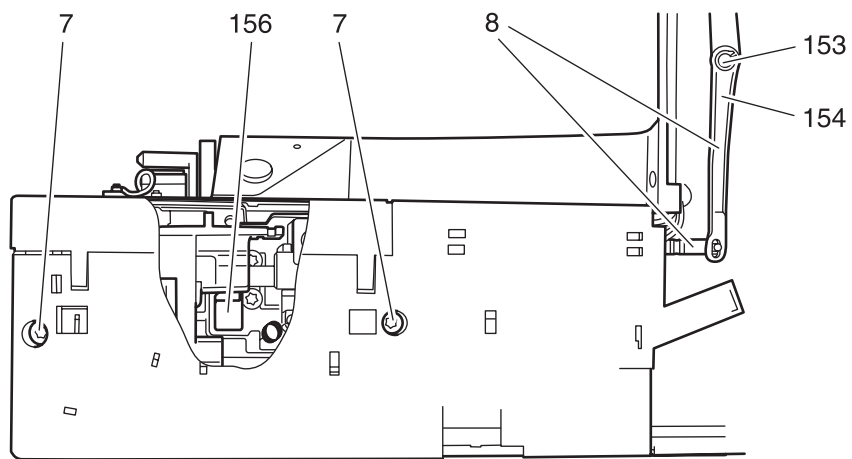

Fig. 104
- Unscrew and remove both fastening screws 7 of the free-arm cover (fig. 104).
- Install the new free-arm cover with thread monitor and secure with both fastening screws 7 (fig. 104).